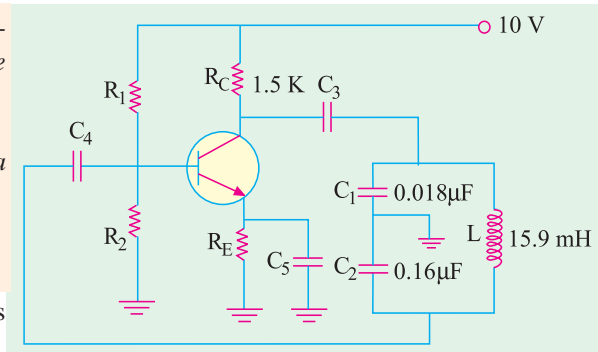

Fig. 65.11
**Example 65.7.** For the Colpitts oscillator circuit shown in Fig. 65.11, find the values of